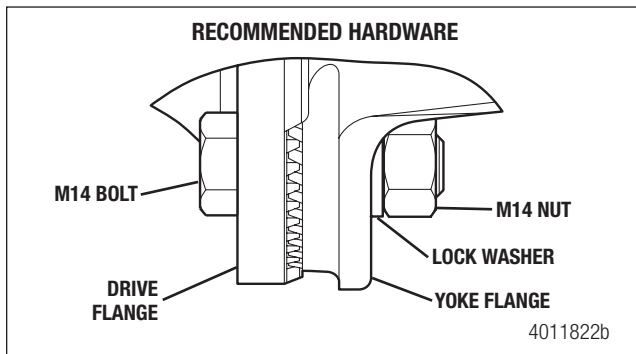
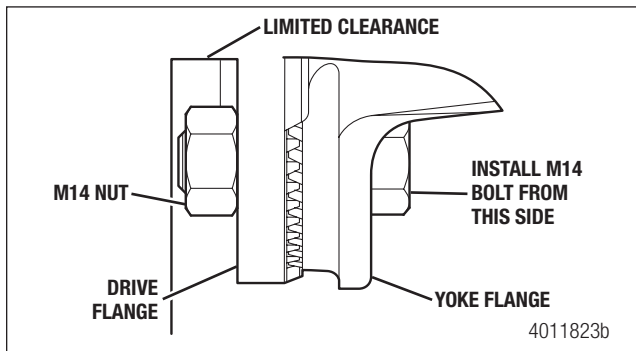

Figure 5.103
Figure 5.104
5. Install the fasteners and washers to secure the coupling joint flange to the vehicle rear drive flange. Figure 5.103. Due to tight clearances, some applications may require the bolt to be inserted from the yoke flange side without a washer and secured with a nut on the drive flange side. Figure 5.104. Tighten the fasteners to 133-163 lb-ft (180-220 Nm).